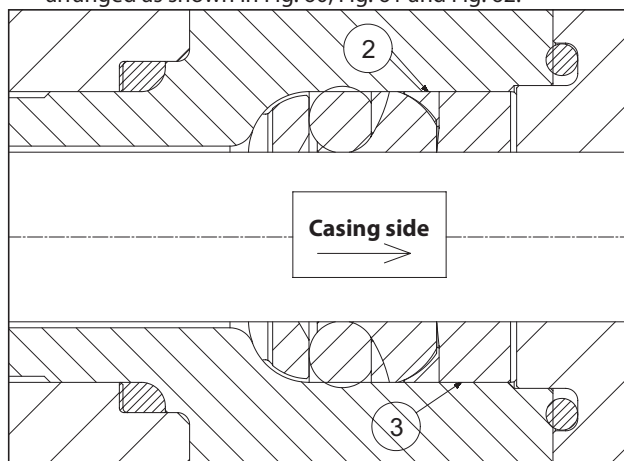

Fig. 62
- Insert the anti-extrusion ring ② and the gasket bush ③ arranged as shown in Fig. 60, Fig. 61 and Fig. 62.
The gasket bush ③ must be introduced into the liner with the outlets facing outwards (casing side) as shown in Fig. 61 and in Fig. 62.